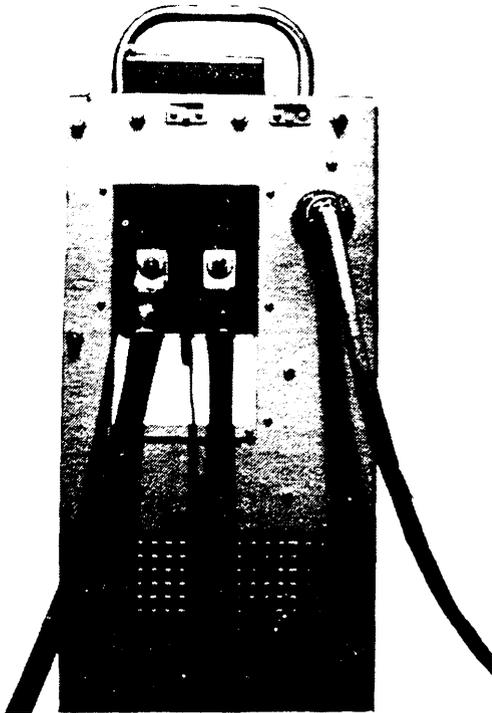

Figure 2. Discharger/Recharger with Power and Reference Leads Attached.
- (2) Connect the 12-foot length of red 4/0 gauge welding cable to the terminal stud marked POS (Figure 2). Connect the 12-foot length of black 4/0 gauge welding cable to the terminal stud marked NEG (Figure 2).
- (3) Connect the red and black 18 gauge reference leads to the positive and negative external terminals, respectively (Figure 2).
- (6) Connect the three-conductor ac input cord to the male receptacle adjacent to the output terminals (Figure 2). Plug the opposite end into a source of 117-volt, 60 Hz, single-phase ac power.
(7) Consult the nameplate of the cell under test to obtain its ampere-hour (AH) capacity. Using this figure, refer to Table 2 to determine the proper discharge rate. Enter the result in the DISCHARGE RATE space in the TEST EQUIPMENT AND ADJUSTMENT section of Form S 4209. Enter one-half this value in the RECHARGE RATE space of the same section.